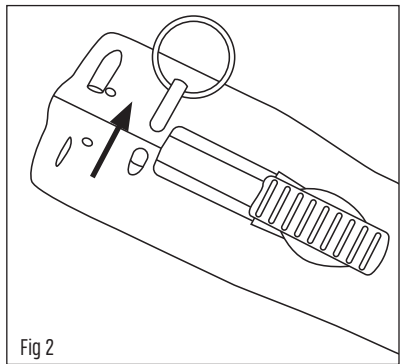

Fig 2
2. **SAFETY PIN REMOVAL** - Remove the Safety Pin before using the LifeLite™. The Safety Pin has been installed as safety against accidental firing. The Safety Pin should remain in place when storing or transporting the LifeLite™ and not when staging for defensive use. (Fig 2)